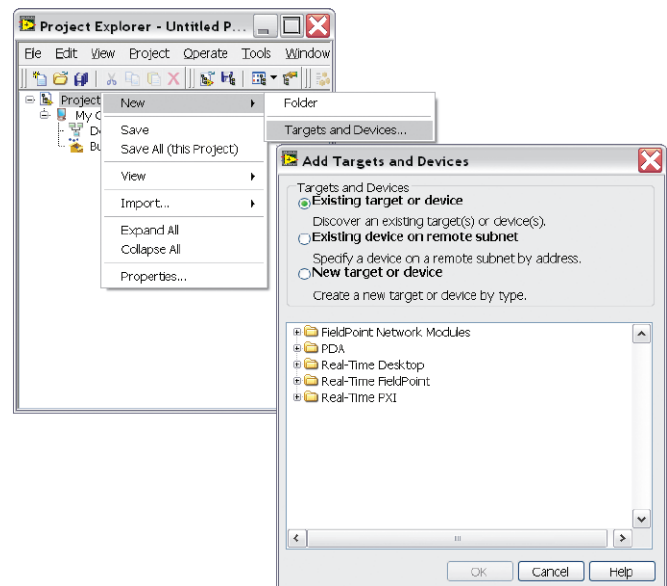

Figure 5. Add a new FieldPoint target to your LabVIEW 8 Project.
- After configuring the IP address for a FieldPoint bank in MAX, either import the configuration file created from MAX, or simply add a new target to a LabVIEW Project as shown in Figure 5.